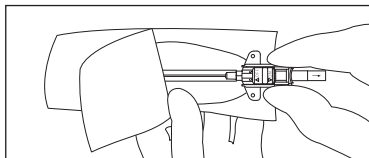

Figure 2
3. Remove the device from the package (see Figure 2).